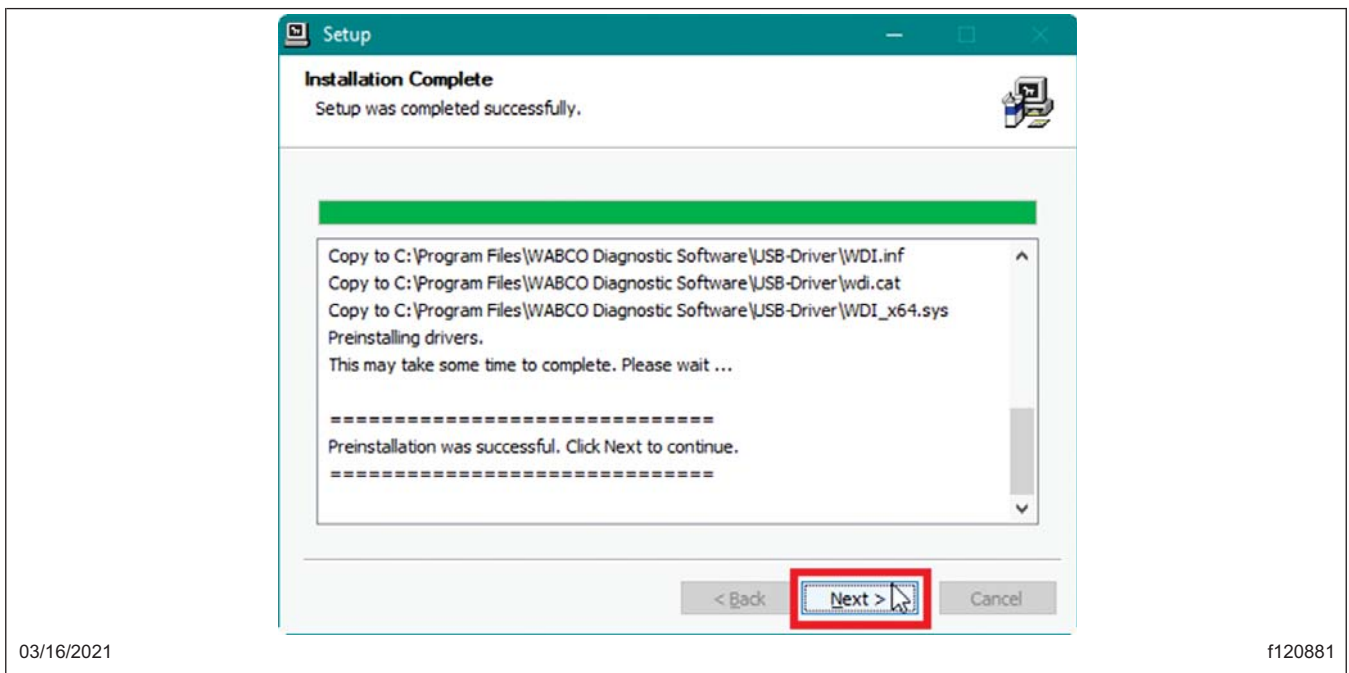

Fig. 21, Acknowledging the Installation is Complete
- 7.15 At the 'Installation Complete' window, select 'Next.' See Fig. 21.